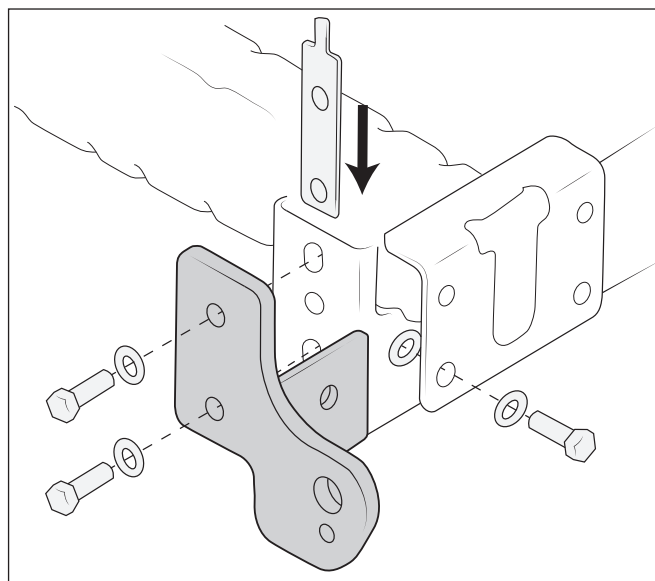

Figure 10
3. Install tow loop brackets (fig. 10).